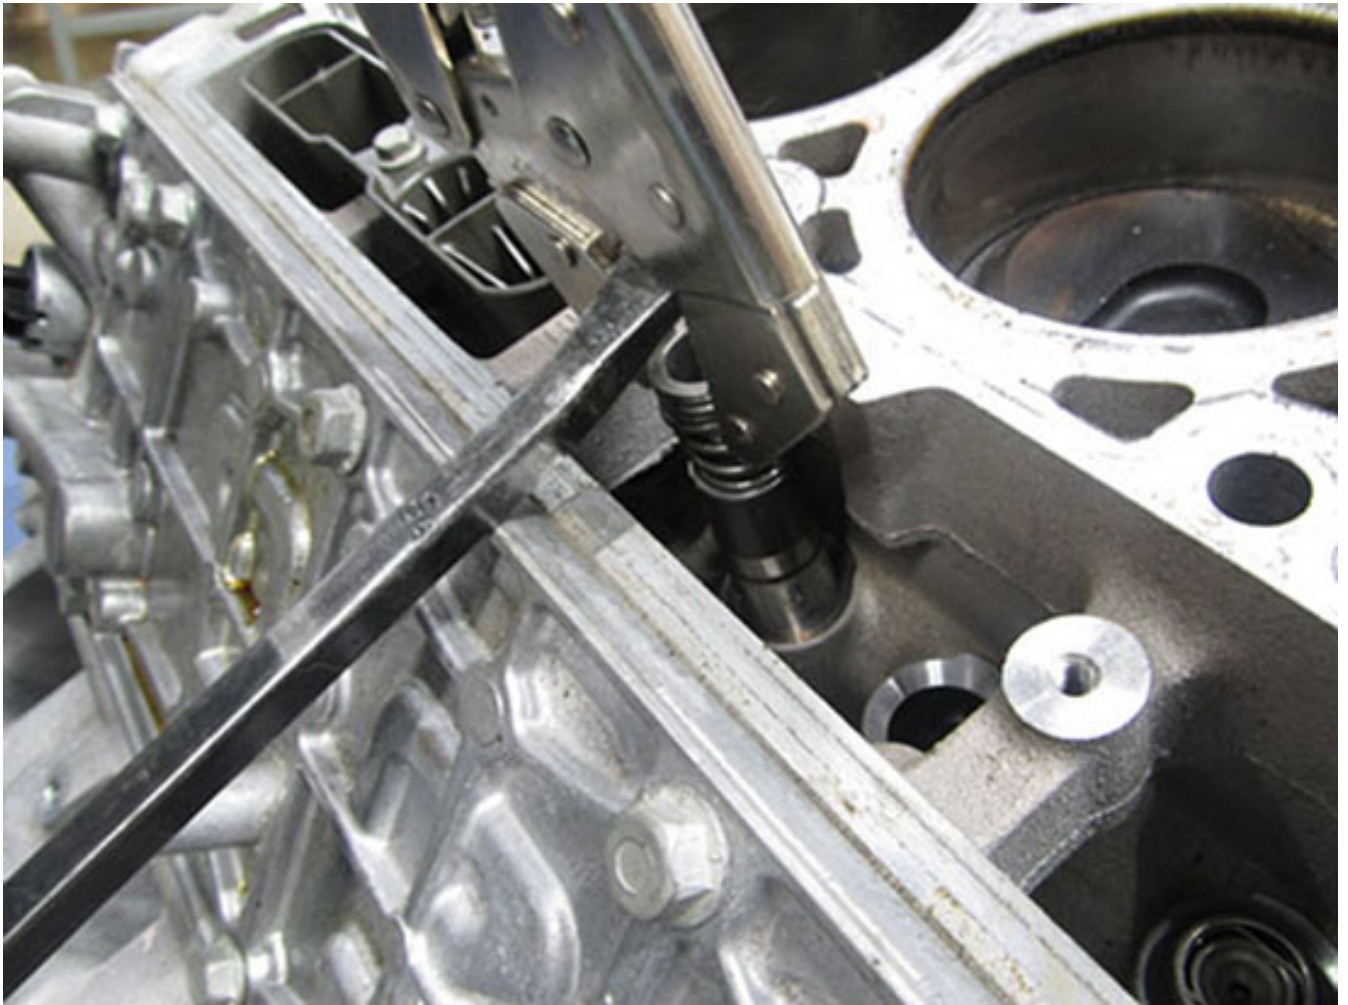

Fig. 12
2. Use vice grips with a small pry bar. (Fig. 12)